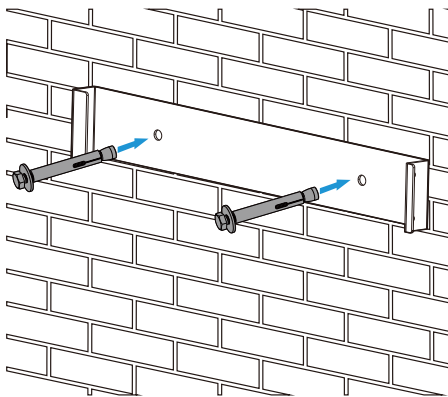

Figure-4.4
- The wall/surface must be suitable for the expansion bolt installation. Ensure that the position of the installation holes on the wall is in accordance with the mounting bracket (as shown in figure-4.4).